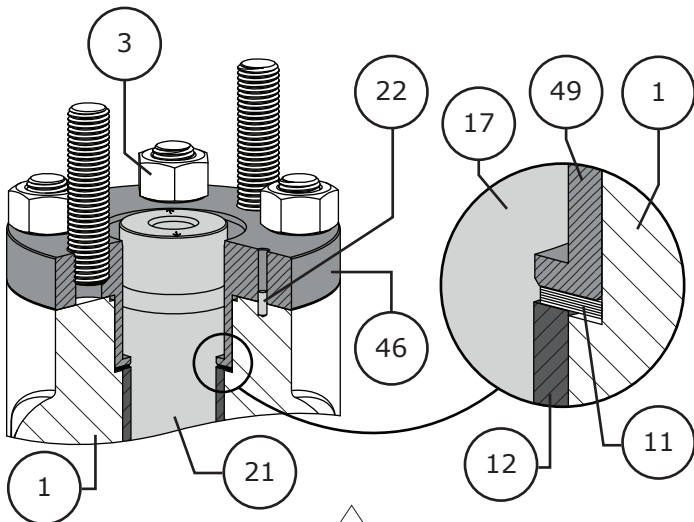

Figure 32 Outboard Live Loaded Shim Installation
- 1** Install 6 shims (Key 11) into the outboard (follower) shaft bore of the valve body (Key 1). Refer to Figure 32.
Temporarily install the packing box (Key 49) and thread on the packing nuts (Key 3) hand tight. **NOTE:** Refer to Figure 32 for locator pin (Key 22) to packing box (Key 49) alignment.
- 2 Re-install the outboard packing box (Key 49). **NOTE:** Refer to Figure 32 for locator pin (Key 22) to packing box (Key 49) alignment.